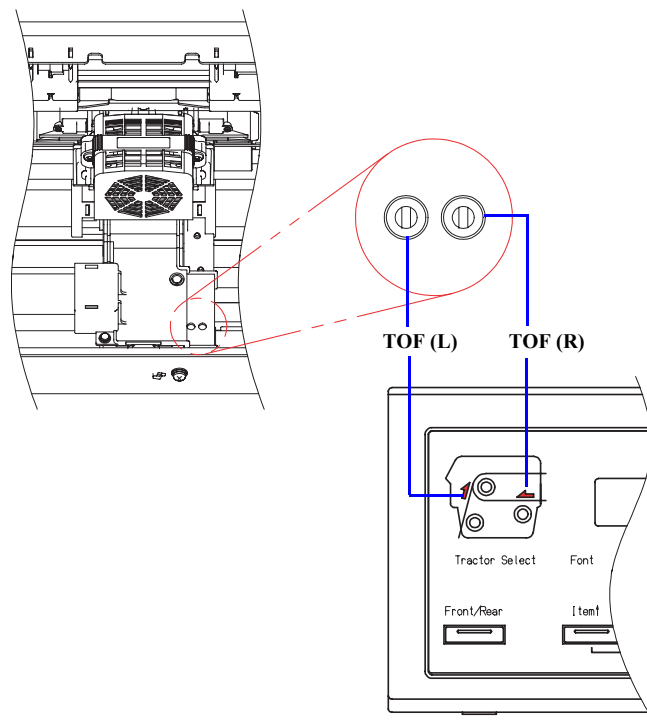

Figure 5-19. Location of TOF Signal Adjustment Screws
4. Locate the two variable resistor (VR) signal adjustment screws on the CARRIER UNIT. See Figure 5-19.
5. For each variable resistor adjustment screw: First turn it counter-clockwise until it stops. The corresponding LED (See Figure 5-19) is not lit. Slowly turn the screw clockwise until the LED lights and stays on.